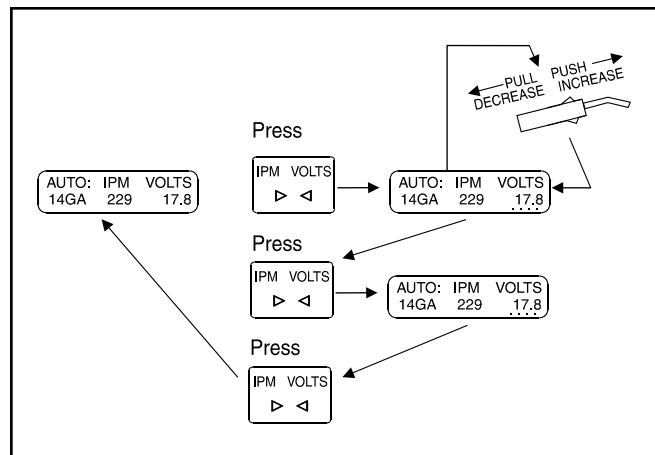

FIGURE B.4 - Using the IPM VOLTS key.
**KEY:** Press to engage the gun thumb switch to control IPM or VOLTS. Pushing the gun thumb switch forward (toward the tip) increases IPM or VOLTS. Pulling gun thumb switch back decreases IPM or VOLTS. The underlining cursor always indicates the selection being controlled by the gun thumb switch. See Figure B.4.